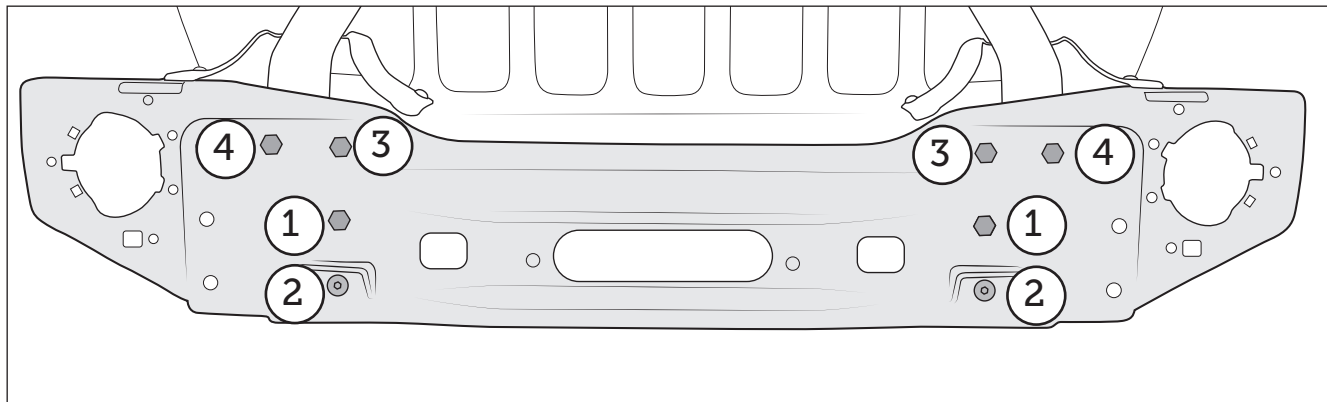

Figure 19
1. Install the fairlead stamping (fig. 19). First install silver M12x35mm bolts and washers into location 1. Make sure stamping is level to frame and holes appear lined up on both sides, then snug the bolts to hold it in place. Install black M12x35mm button head bolts and black washers to holes in location 2 and silver M12x35mm bolts and washers to locations 3 and 4. Torque all bolts to 60lb-ft.